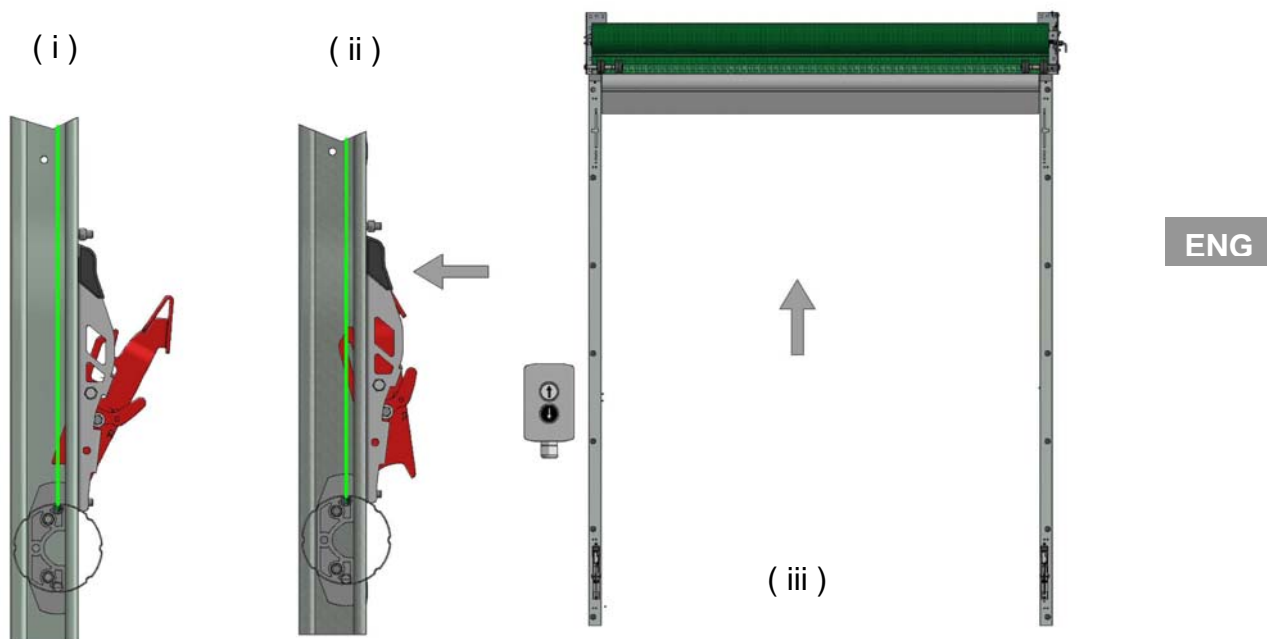

Figure 17, Setting the Limits
- Fully lower the door so that the bottom tube inserts pass below the locking catches with 2-3cm of clearance, Figure 17(i).
- Disengage both locking catches Figure 17(ii).
- Press and hold the UP button to open the door fully and stall against the guide rollers at the top Figure 17(iii). This MUST be done without interruption. When the motor stalls the limits are set.